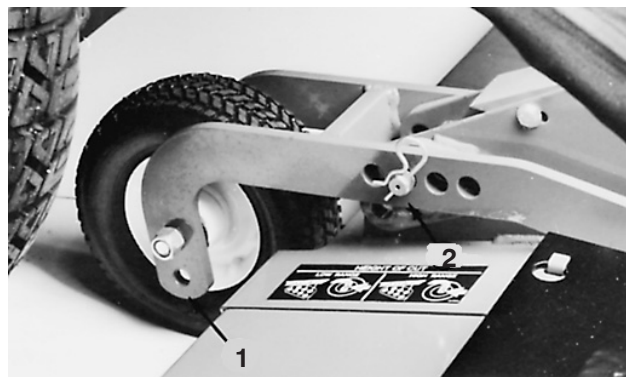

Figure 73
1. Adjust cutting unit to highest height-of-cut. Position castor wheel axles in lower castor fork holes (Fig. 73 and 74). If checking front cutting unit, reposition two rear castor's clevis pins to highest height-of-cut setting (Fig. 73). On the front castors, move all castor spacers to the underside of the castor arms (Fig. 73). To check outboard units, move all castor shaft spacers to the underside of the castor arms and castor wheel axles to lower castor fork holes.